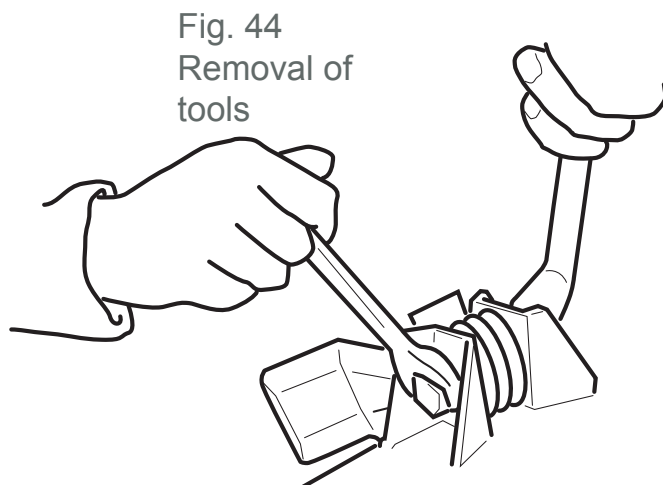

Fig. 44
- 3) Replace the knives or hammers as depicted in figures 44 and 45. Carefully secure the screws on ensuring their tightness.